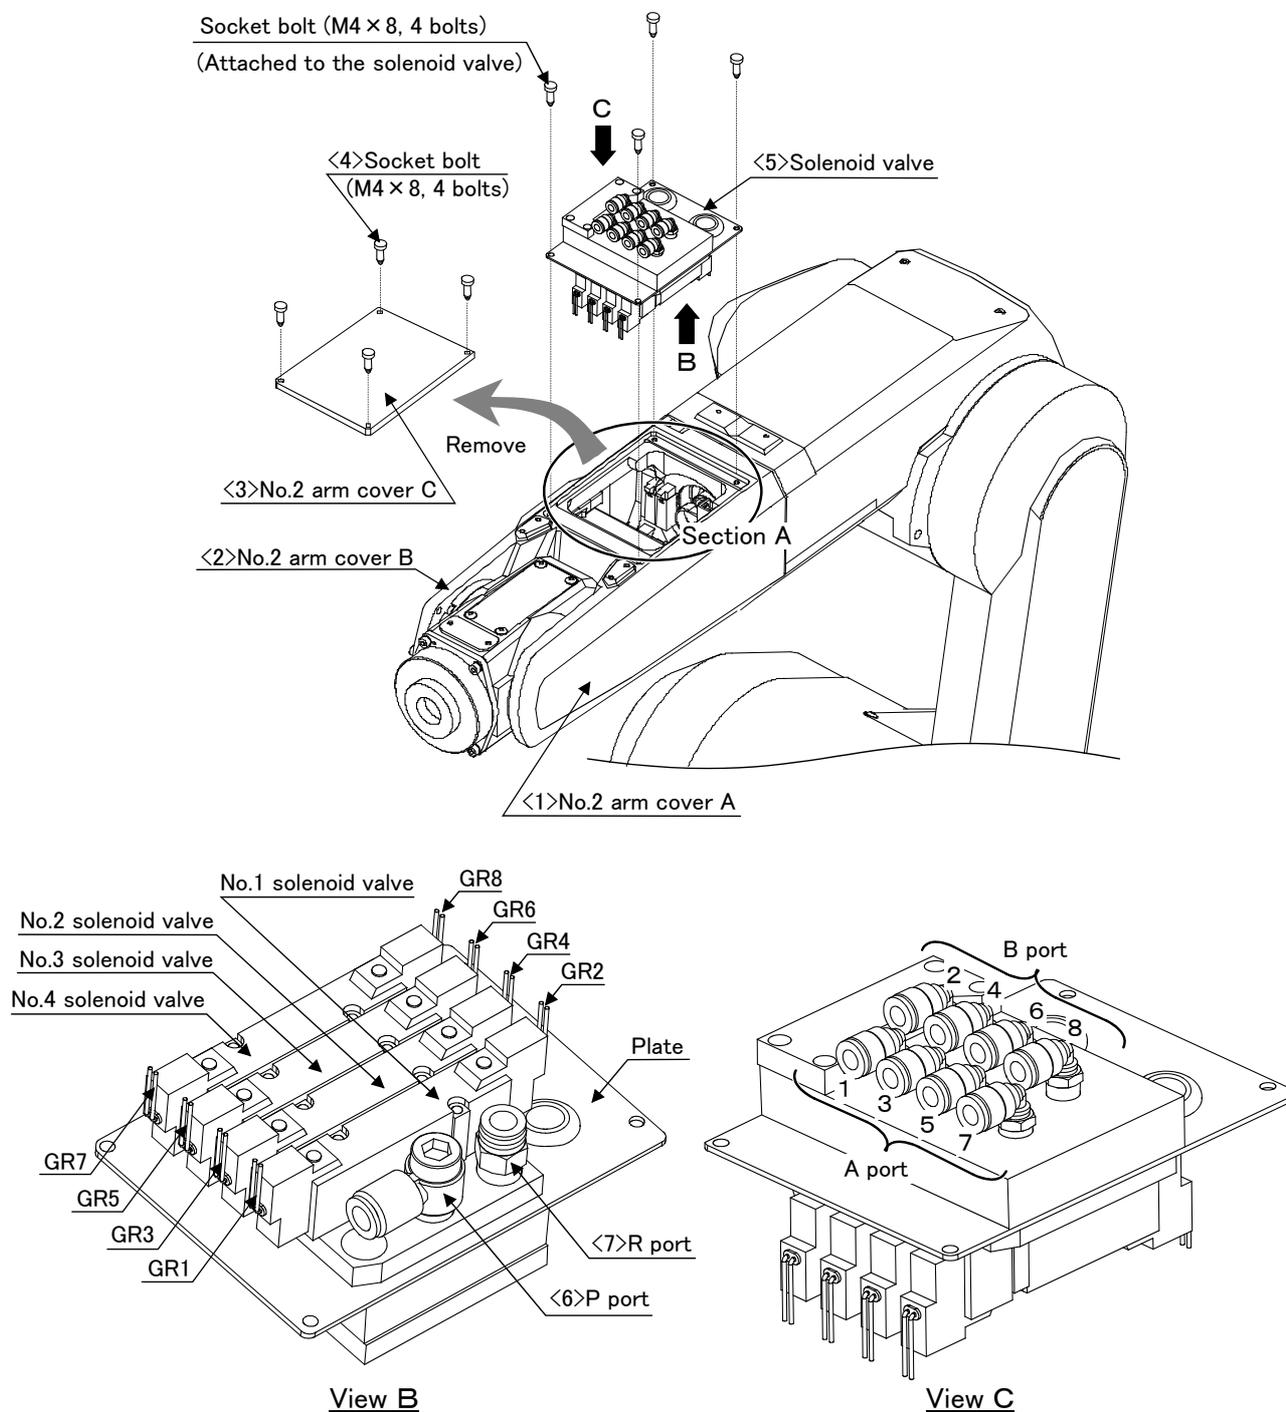
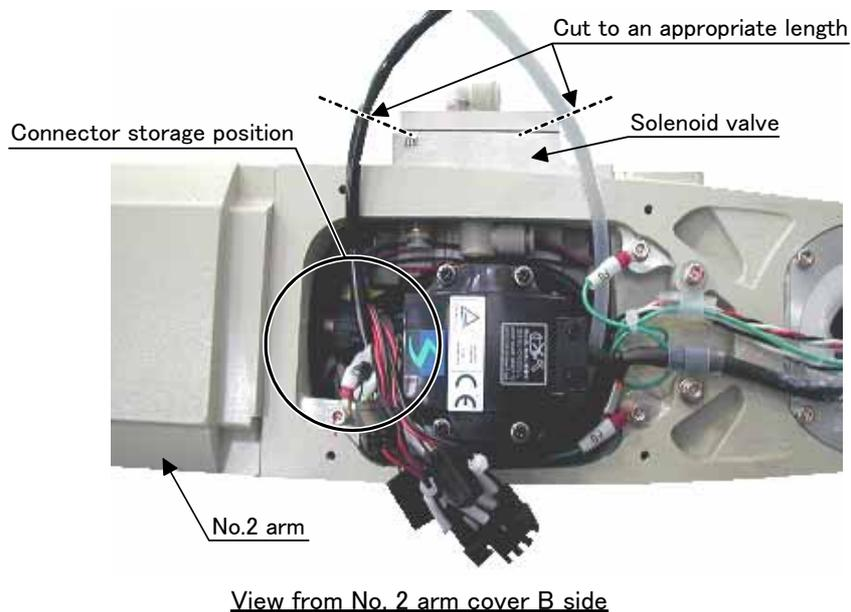

Fig.3-1 : Solenoid valve installation procedures
Fig.3-2 : Solenoid valve installation diagram details 1
Fig. 3-1 and Fig. 3-2 shows the solenoid valve installation procedures and the solenoid valve connector connection procedures. The installation procedures are as follow. This work must be carried out with the controller power turned OFF.
- 2) If you are not using the spare line (ADD: stored in a coil) in section A shown in Fig. 3-1, remove it. The spare line is connected to a connector inside section A.
- 3) Connect the connectors of "GR1" and "GR2" stored in section A to the connectors of "GR1" and "GR2" coming out of the solenoid valves. Store the connectors near the location marked with ○ shown in Fig. 3-2.
The procedure for installing the hand input cable is as follows. Conduct work by referring to Page 44 "Fig. 3-1 Solenoid valve installation procedures" and Page 47 "Fig. 3-4 Installing the hand input cable" below. This work must be carried out with the controller power turned OFF.
- 6) Connect the connectors of "HC1" and "HC2" stored in section A shown in Fig. 3-1 to "HC1" and "HC2" of the hand input cable.
- 7) Mount the No. 2 arm cover C <3> or the solenoid valves <5> to section A shown in Fig. 3-1. When mounting, be careful not to damage the sponge sealing material attached to the opening of section A. If it is damaged, the protection performance may be lowered.
- 6) Connect the connectors of "GR1" and "GR2" stored in section A shown in Fig. 3-1 to "GR1" and "GR2" of the hand output cable.
- 7) Mount the No. 2 arm cover C <3> to section A shown in Fig. 3-1. When mounting, be careful not to damage the sponge sealing material attached to the opening of section A. If it is damaged, the protection performance may be lowered.